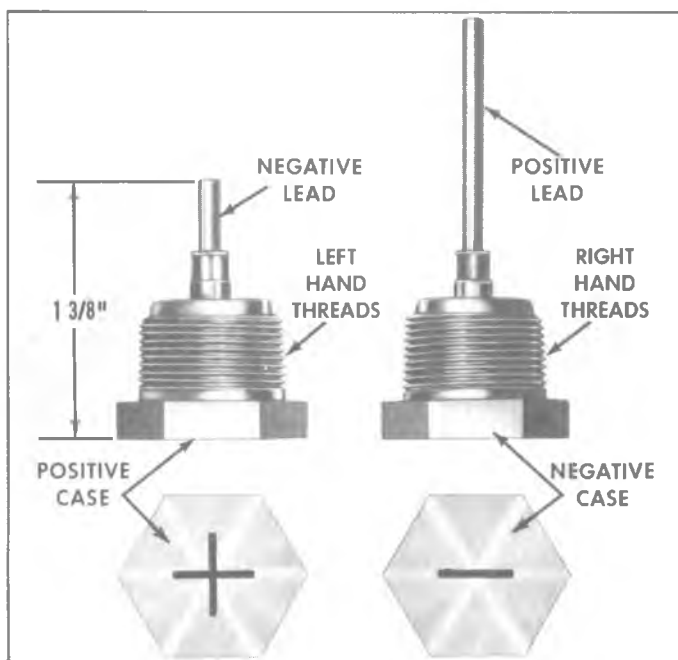

Fig. 22c—Diodes Showing Polarity Marking on Case
3. Select diode with proper polarity marking (fig. 22c).